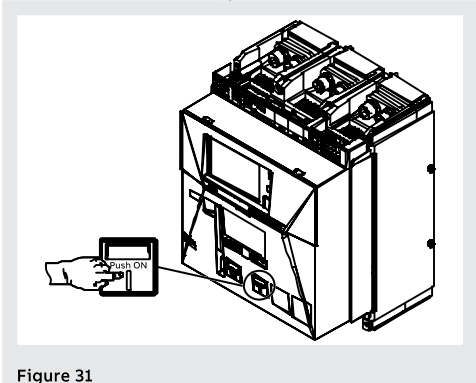

Figure 31
4. Closing - Press the closing pushbutton "I - Push ON" as indicated in Figure 31.